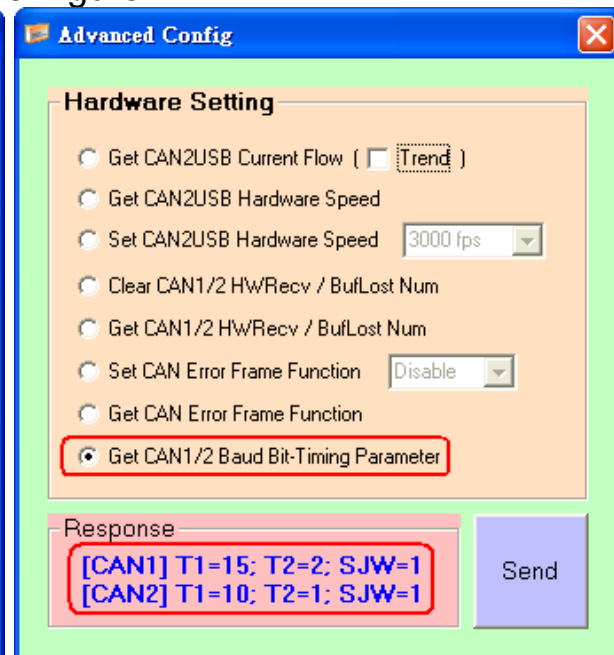

Figure 7-14-2 “T1, T2 and SJW”
- (2) Show the Bit-Timing parameters including T1, T2 and SJW values used in I-7565-H1/H2 module like Figure 7-14-2.